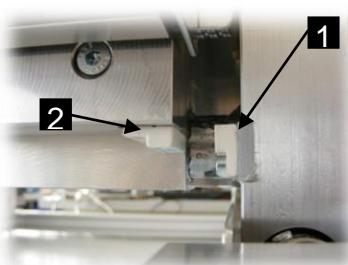

Figure 9b: Y-Carriage
- The reference switch (Fig. 9b / 1) responds to the magnetic field of the incoming homing magnet (Fig. 9b / 2). If the magnet is close enough the reed sensor of the switch turns on.